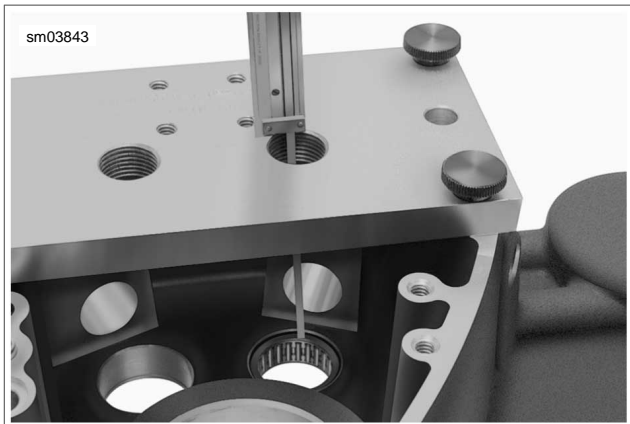

Figure 3-126. Measure from Top of Support Plate to Edge of Needle Bearing
- d. See Figure 3-126. Inserting dial caliper through forcing screw bore, measure distance from top of support plate to edge of needle bearing.